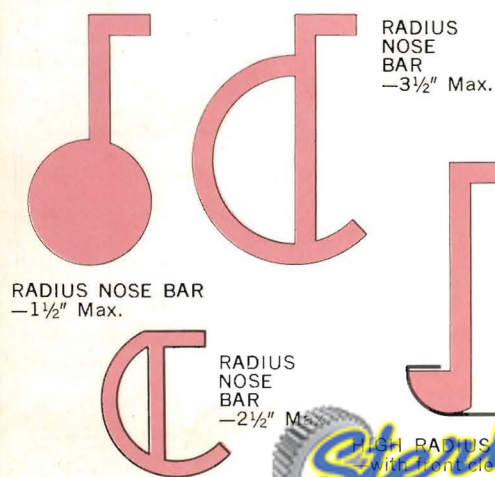

Fig. 36—High Clearance Radius Nose Bars
- Rapid up-and-down top leaf adjustment for raising leaf to obtain up to 5" clearance for crosswise flanges, boxes and pans. This adjustment also provides clearance for insertion of high radius nose bars for any radius up to $3\frac{1}{2}$ ". See Figs. 36 and 37.